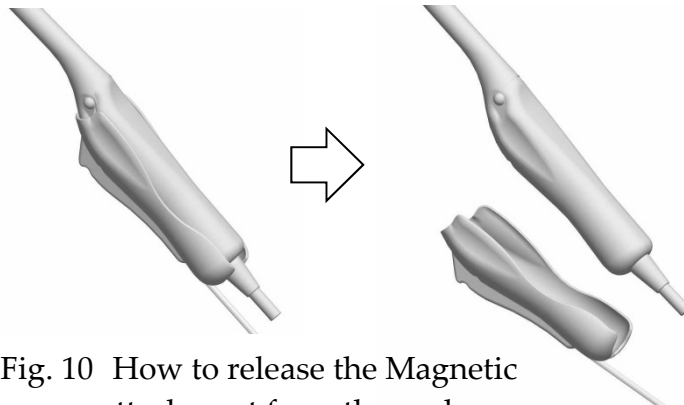

Fig. 10 How to release the Magnetic sensor attachment from the probe
- 1) Detach the Magnetic Sensor Attachment from the probe as shown Fig. 10.